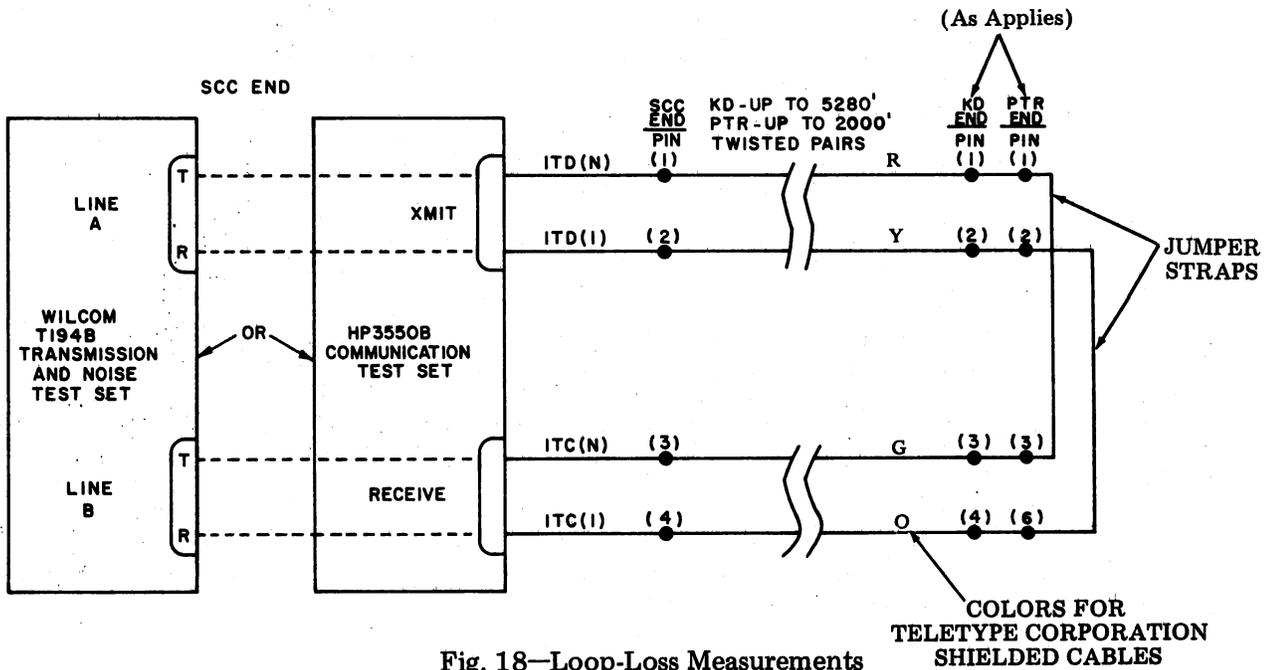

Fig. 18—Loop-Loss Measurements
3.25 The Loop-Loss Tests require either a WILCOM T194B Transmission and Noise Test Set or a HP-3550B Communication Test Set and two jumpers. Connect the test set as shown in Fig. 18. Perform the tests in Table E.